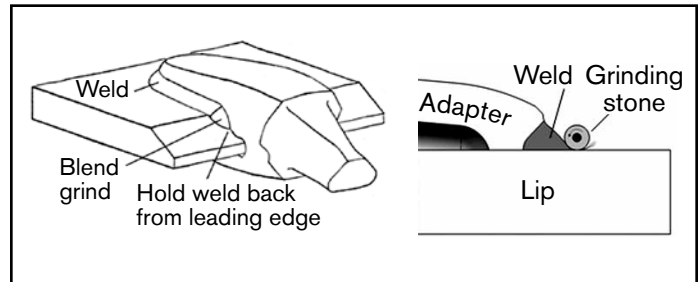

Figure 1
2. Blend welds concave to remove stress concentrations as shown in Figure 1.
**⚠CAUTION:** To prevent cracking, welds should never be extended to the leading edge of the lip. Terminate, and blend grind, the ends of the upper leg weld at the end of the J-groove weld prep. Refer to Figure 1.